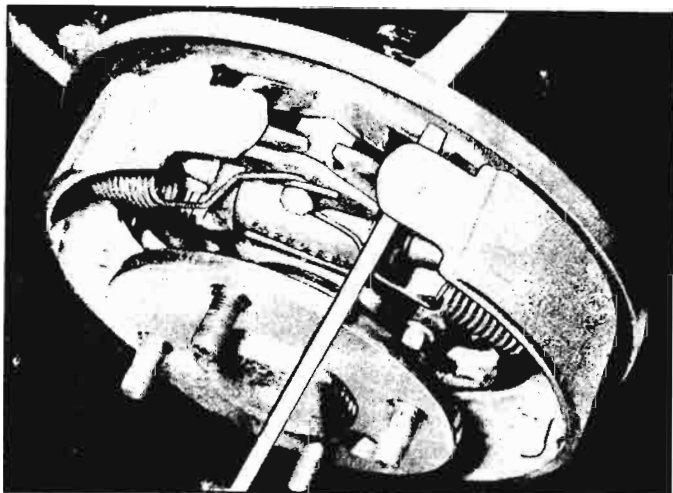
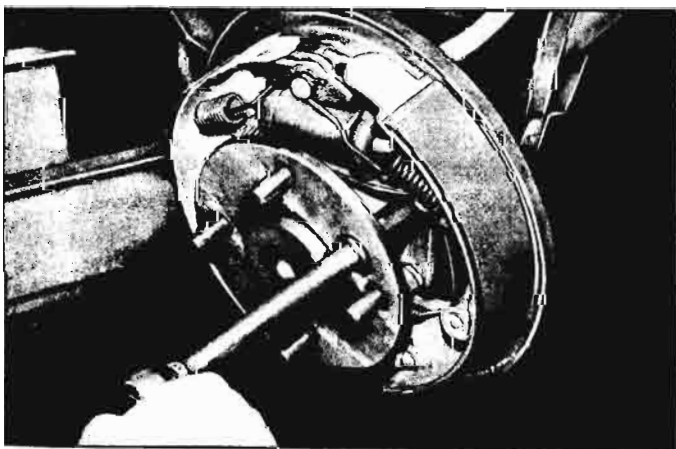

Fig. 3-27—Dislodging Brake Shoe
Fig. 3-28—Removing Backing Plate Attaching Nuts
4. Place upper end of brake shoe (still assembled and attached onto backing plate) onto brake anchor (fig. 3-27). This will allow the axle flange plate and axle shaft to be pulled out past the parking brake strut.
5. Line up the hole in axle shaft flange with the nuts retaining backing plate to the lower control arm. Remove these four nuts and lockwashers (fig. 3-28).
10. Remove the two nuts installed in step 7. Being careful of seal, install universal joint spline into axle housing (brake shoe should be out of position—see Figure 3-27). Line up holes in axle bearing flange plate with studs on end of control arm. Install the lockwashers and nuts through hole in axle shaft flange (fig. 3-28).